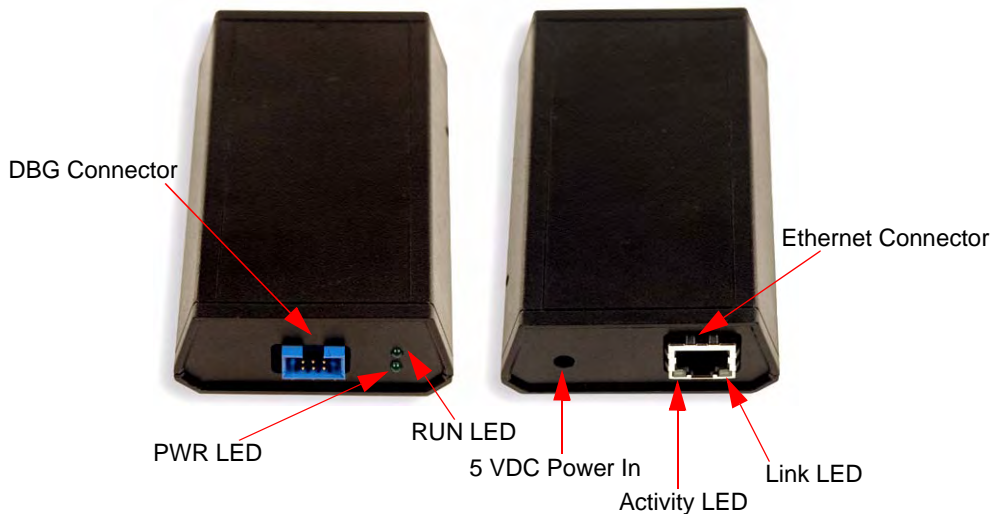

Figure 1. Ethernet Smart Cable, Front View and Rear View
2. Connect the 5V DC power supply to the Ethernet Smart Cable power connector. As a result, the green PWR and RUN LEDs will illuminate. The green link LED on the Ethernet Smart Cable RJ-45 connector illuminates, as shown in Figure 1, indicating a live Ethernet connection. The green activity LED on the Ethernet Smart Cable RJ-45 connector flickers, indicating network activity.
3. Connect the 5V DC power supply to the Ethernet Smart Cable power connector. As a result, the green PWR and RUN LEDs will illuminate. The green link LED on the Ethernet Smart Cable's RJ-45 connector illuminates (see Figure 1 on page 3), indicating a live Ethernet connection. The green activity LED on the Ethernet Smart Cable RJ-45 connector flickers, indicating network activity.
Attach one end of the six-conductor ribbon cable to the Smart Cable six-pin DBG connector, as shown in Figure 1 on page 3. Attach the free end of the ribbon cable to the connector on the target board. Ensure that pin 1 on the ribbon cable (indicated by the dark stripe) is aligned with pin 1 on the target connector. To learn more about connecting the Ethernet Smart Cable to your target board, refer to the eZ80Acclaim! Design for Debug Technical Note \(TN0035\) or the Z8 Encore! Design for Debug Technical Note \(TN0036\).